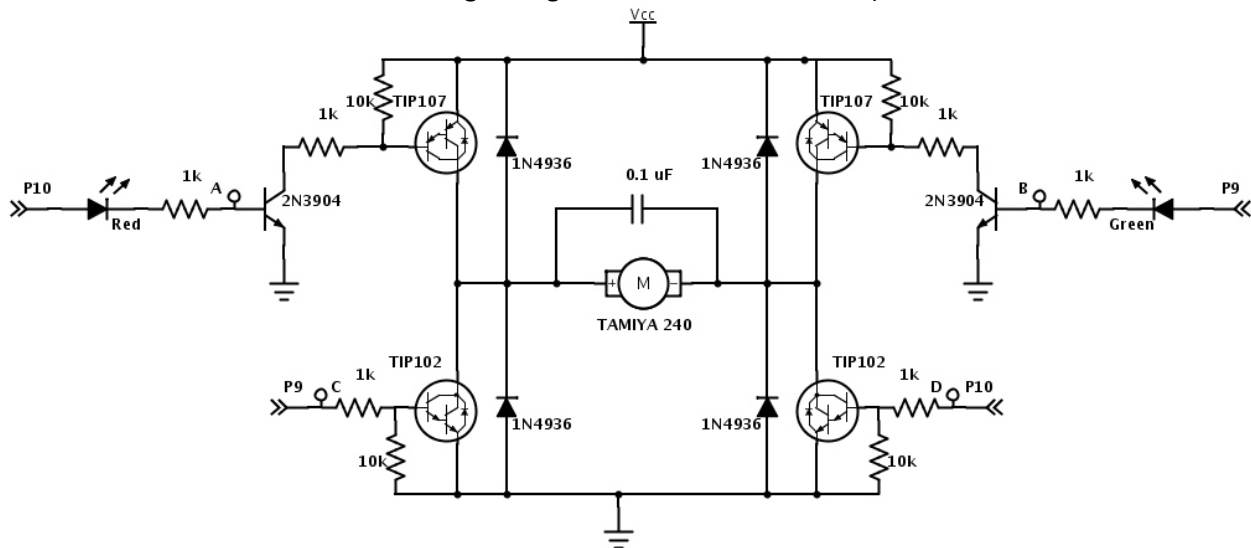

Fig. 1 Circuit diagram of the H-Bridge motor controller.
- 1) Translate the H-Bridge bi-directional motor control circuit shown in Fig. 1 into a fully-wired breadboard implementation using a graphical editor such as Fritzing or an equivalently-featured layout tool and commit a picture of your diagram. Note: There are two symmetric circuits that can be split and their similar sub-circuits built adjacently on the breadboard; specifically, try placing sink next-to-sink on one side of terminal strips and source-next-to-source on the other side of terminal strips – this may help simplify wiring and clean-up the circuit or aid in visual inspection before applying power to the circuit.
- 1) Re-examine the H-bridge circuit in Fig. 1 to determine if any components in the circuit are unnecessary. Justify your answer by briefly describing why they can be removed and/or how the current circuit can be reconfigured to improve its performance.